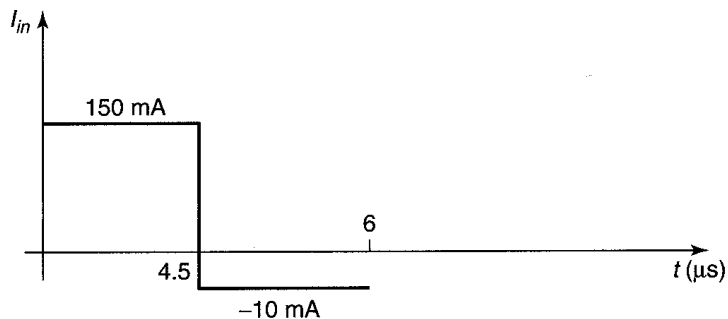

Figure P6.2.14 Problem 6.2.14.
6.2.14. A 12-V battery ($R_S = 0$) is attached to an unknown length of transmission line that is terminated in a resistance. If the input current to the line for $6\ \mu\text{s}$ is as shown in Fig. P6.2.14, determine (a) the line characteristic impedance and (b) the unknown load resistance. [$Z_C = 80\ \Omega, R_L = 262.9\ \Omega$]